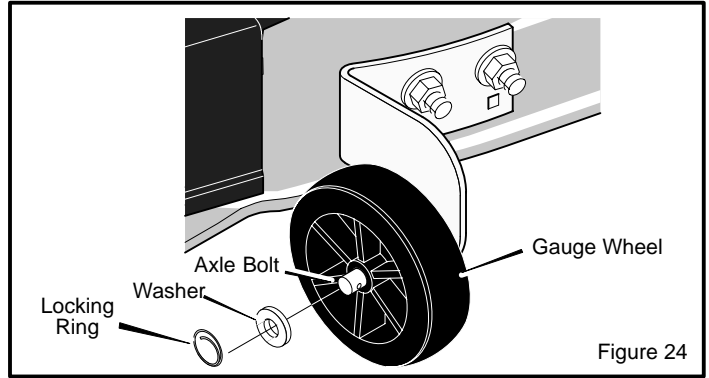

Figure 24
1. Remove the **gauge wheels** (Figure 24).